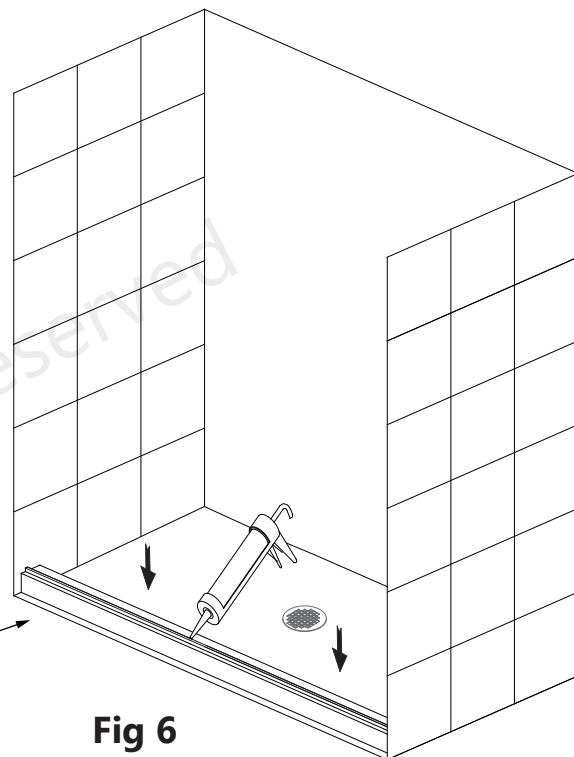

Fig 6
6. Run a bead of silicone along the inside edge of the **Bottom Rail (#08)**. (**Fig 6**)